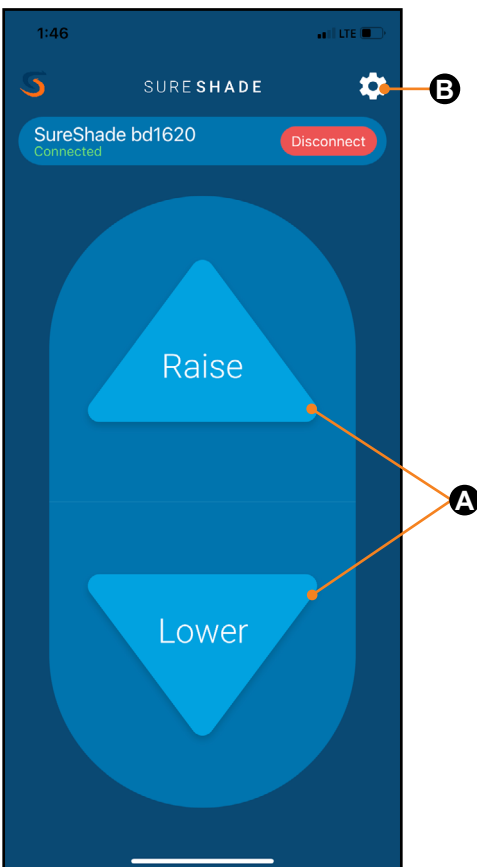

Fig.35
NOTE: There is no operation indicator light on the app's control button screen (**Fig.35**).
A. Open the app and go to the Raise and Lower button screen (**Fig.35**).